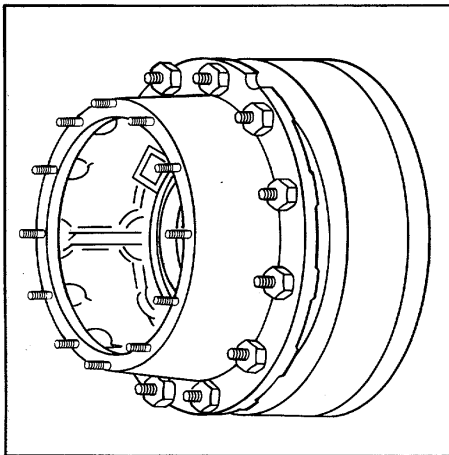

Figure 12.
1. Lift the hub and drum slightly to relieve the hub weight and drum to brakeshoe drag and remove the assembly from the hub spindle (refer to Fig. 12)